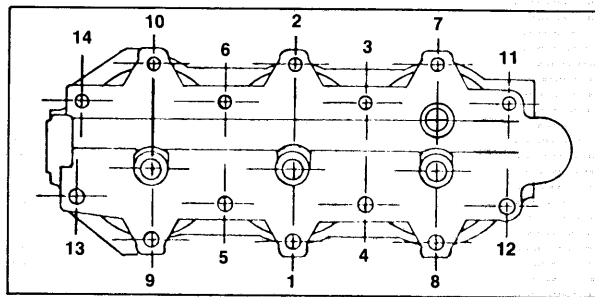

Figure 1—Torquing Sequence
- Install new cylinder head cover and gasket on cylinder head and secure with thermostitch in hole next to #1 spark plug and two (2) screws.
- Install cylinder head assembly and new head gasket on powerhead. Secure cylinder head assembly and gasket to powerhead with 14 head bolts and plain washers. First torque all cylinder head bolts to 75 In. Lbs. following torquing sequence as shown in figure 1. Then increase torque in increments of 50 In. Lbs. to specified torque.